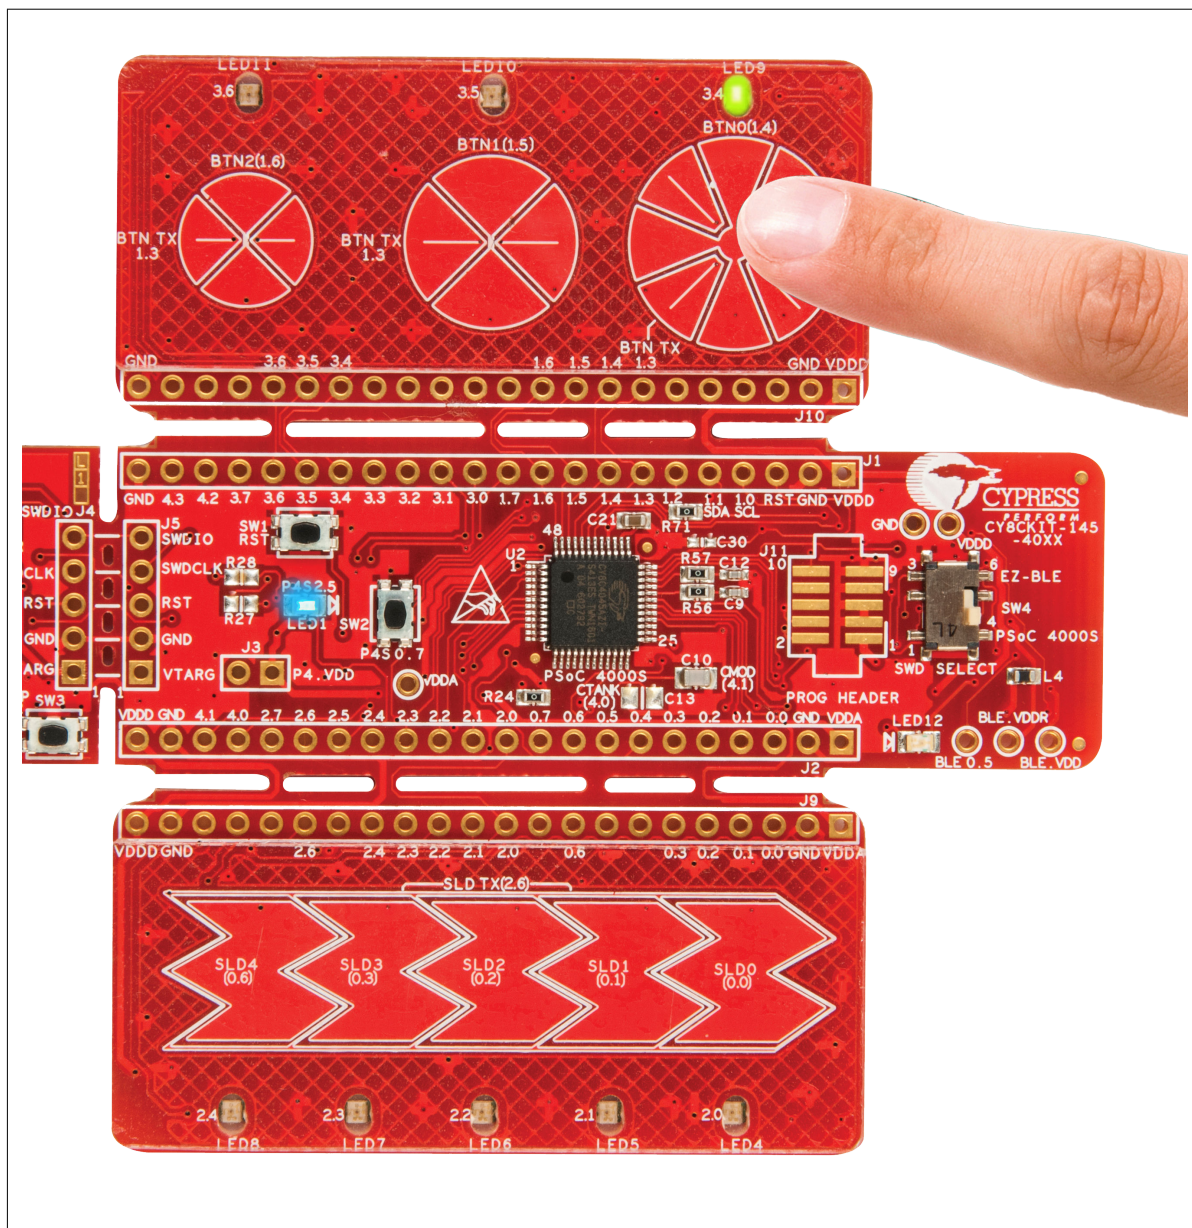

Figure 8 CAPSENSE™ button operation with LED indication
2. Touch the CAPSENSE™ buttons BTN0, BTN1, or BTN2 with your finger and observe the corresponding LEDs (LED9, LED10, and LED11) turn on, as shown in Figure 8